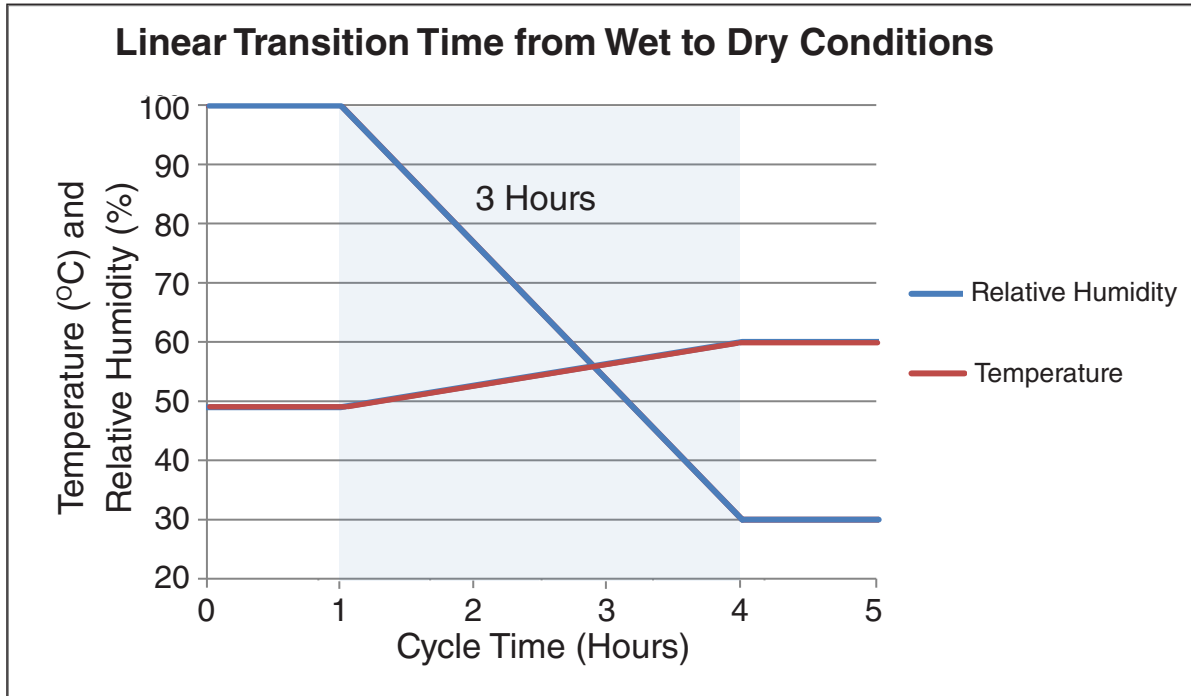

Figure 7.2b: Linear ramp.
- o **Linear:** When a LINEAR ramp is selected, a time must also be selected (the minimum time is 10 minutes). This is the time it will take to go from the set point of the previous step to the set point of the current step. The temperature and/or RH is ramped by creating one minute incremental temperature and/or RH set points. The incremental set points are determined by taking the change in temperature and/or RH and dividing by the ramp time (Figure 7.2b).